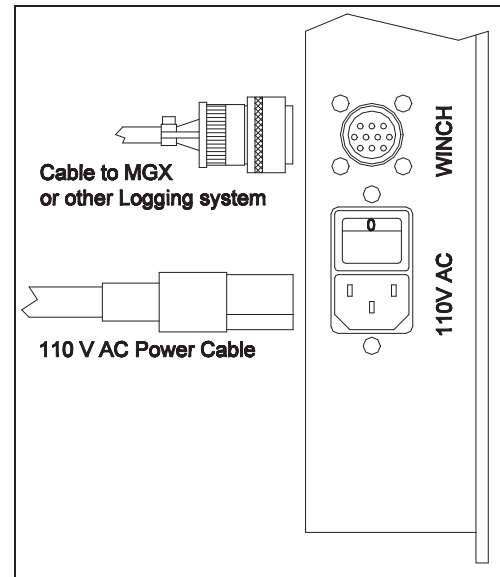

Figure 8
6. Attach the probe to the cable head and check to see that the logger and power cables are connected to the winch control panel as in FIGURE 8. It is good practice to insure that the switch on the AC (110V or 220V) connector is in the O or off position and the WINCH direction switch is in the center position before plugging the other end into an AC outlet. Note the cable connecting the winch to the logger has identical connectors on both end. Either end can be plugged into the winch.